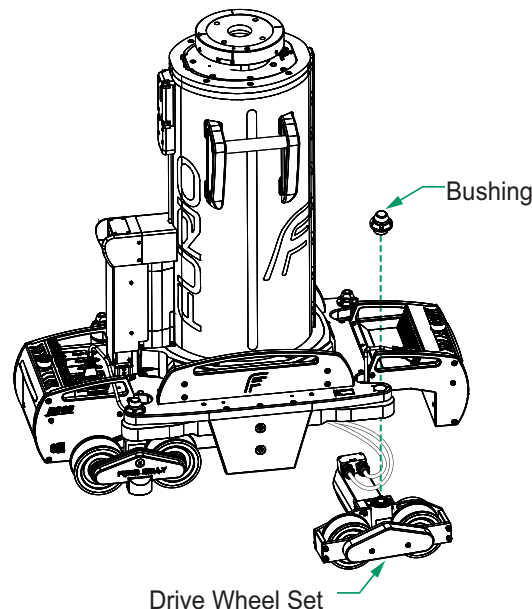

Figure 4 - Removing Bushing from the Drive Wheel Set
1. Use a 2.5 mm hexagonal wrench to remove the 5 screws holding the bushing in place above the drive wheel set. Refer to **Figure 4**.